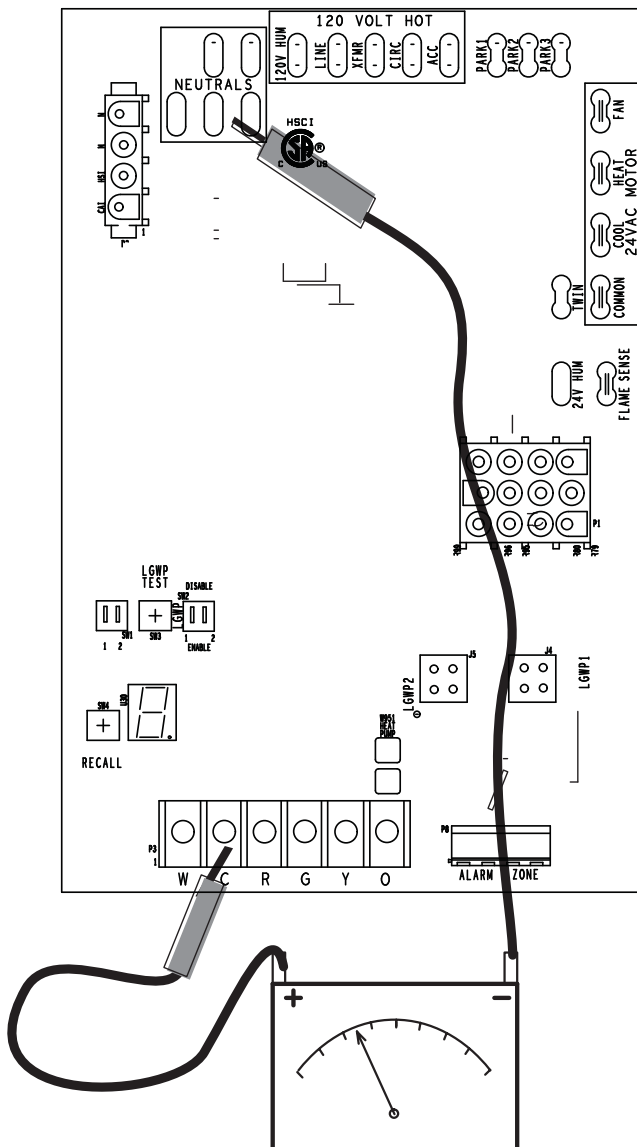

Figure 22. Check Voltage Between Line Neutral And Low Voltage "C" Terminal
- 2 - In addition, measure the AC voltage from Line Hot to Line Neutral (spade terminals) on the integrated control. See **FIGURE 22**. This voltage should be in the range of 97 to 132 Vac.